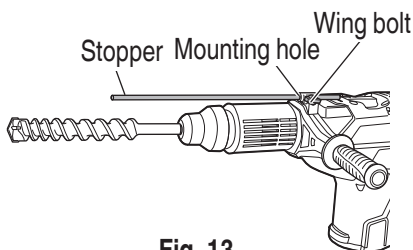

Fig. 13
5. Install the stopper (Fig. 13)